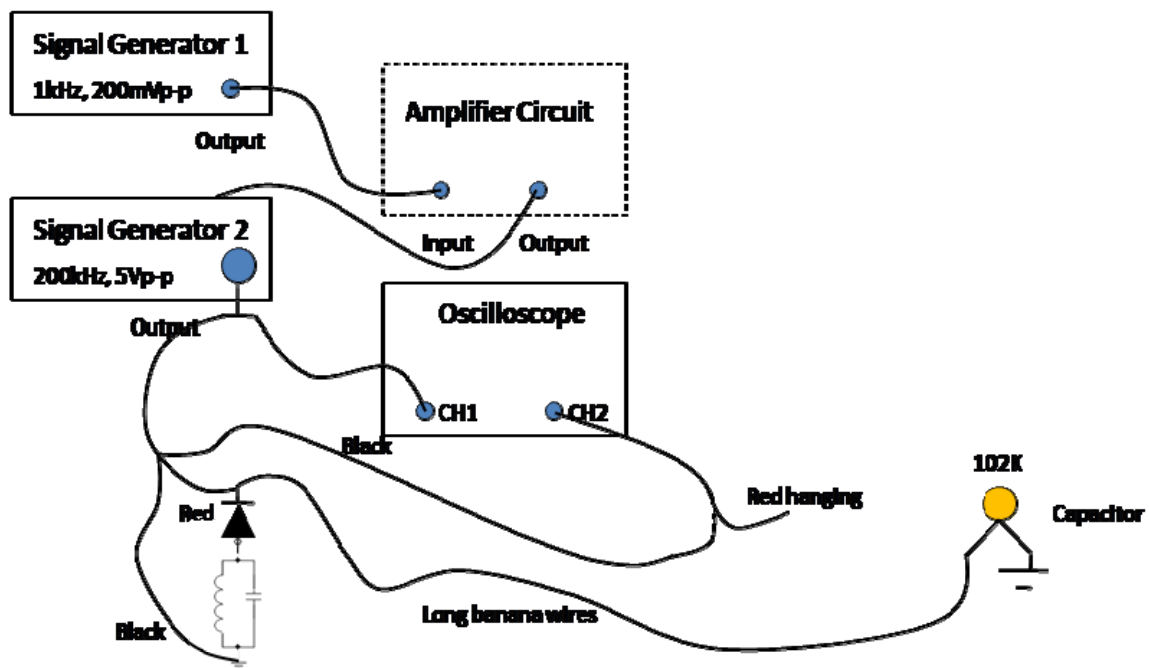

Fig. 4: Antenna Layout.
1. Referring to **Fig.4** for the antenna layout. Use the BNC T-way on the function generator output (AM signal). Connect one cable from the T to Channel 1.